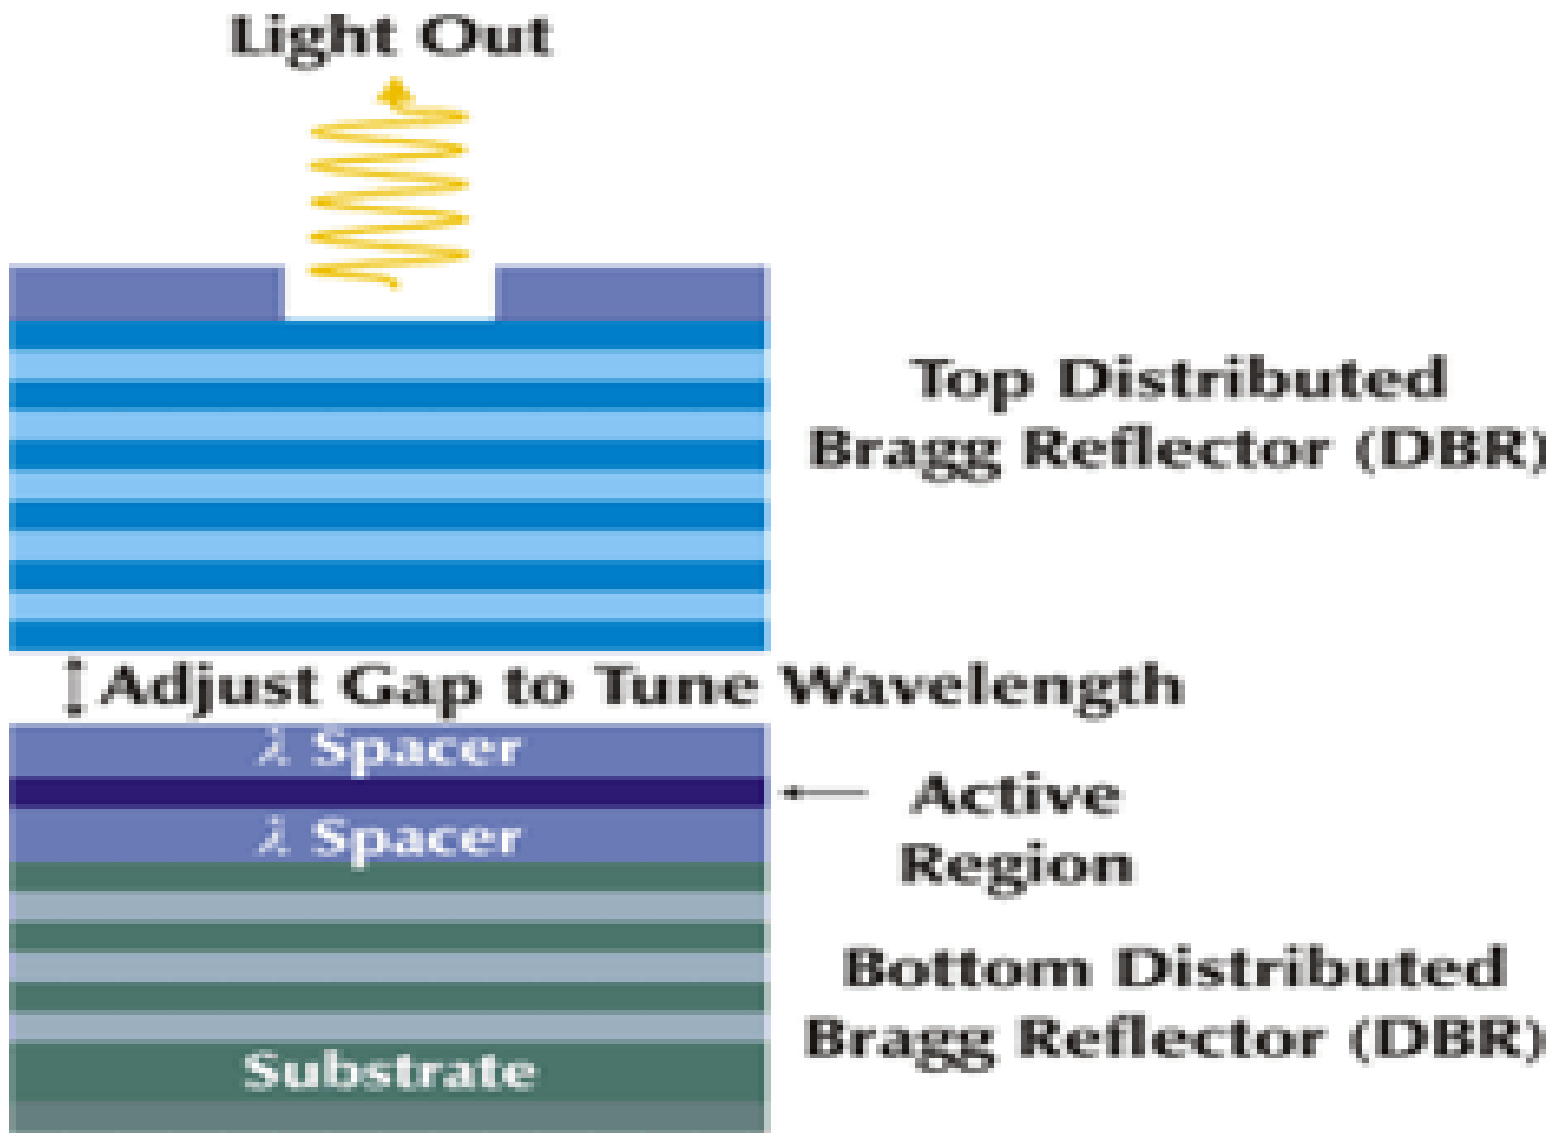

Figure 6 - Basic VCSEL Structure
- ✚ Figure 6 illustrates the structure of a VCSEL.